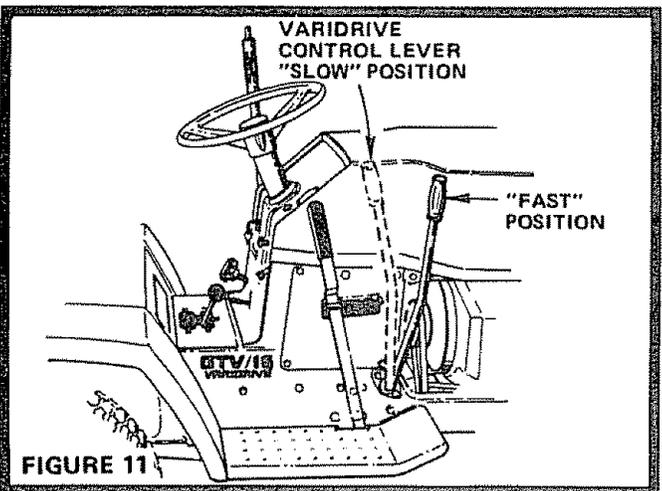

FIGURE 11
CAUTION: DO NOT OPERATE VARIDRIVE CONTROL (FIG. 11) UNLESS ENGINE IS RUNNING. DAMAGE MAY OCCUR TO VARIDRIVE SYSTEM.
5. Move Varidrive Control Lever to desired speed (Fig. 11). If ground travel is too slow advance Throttle Lever.